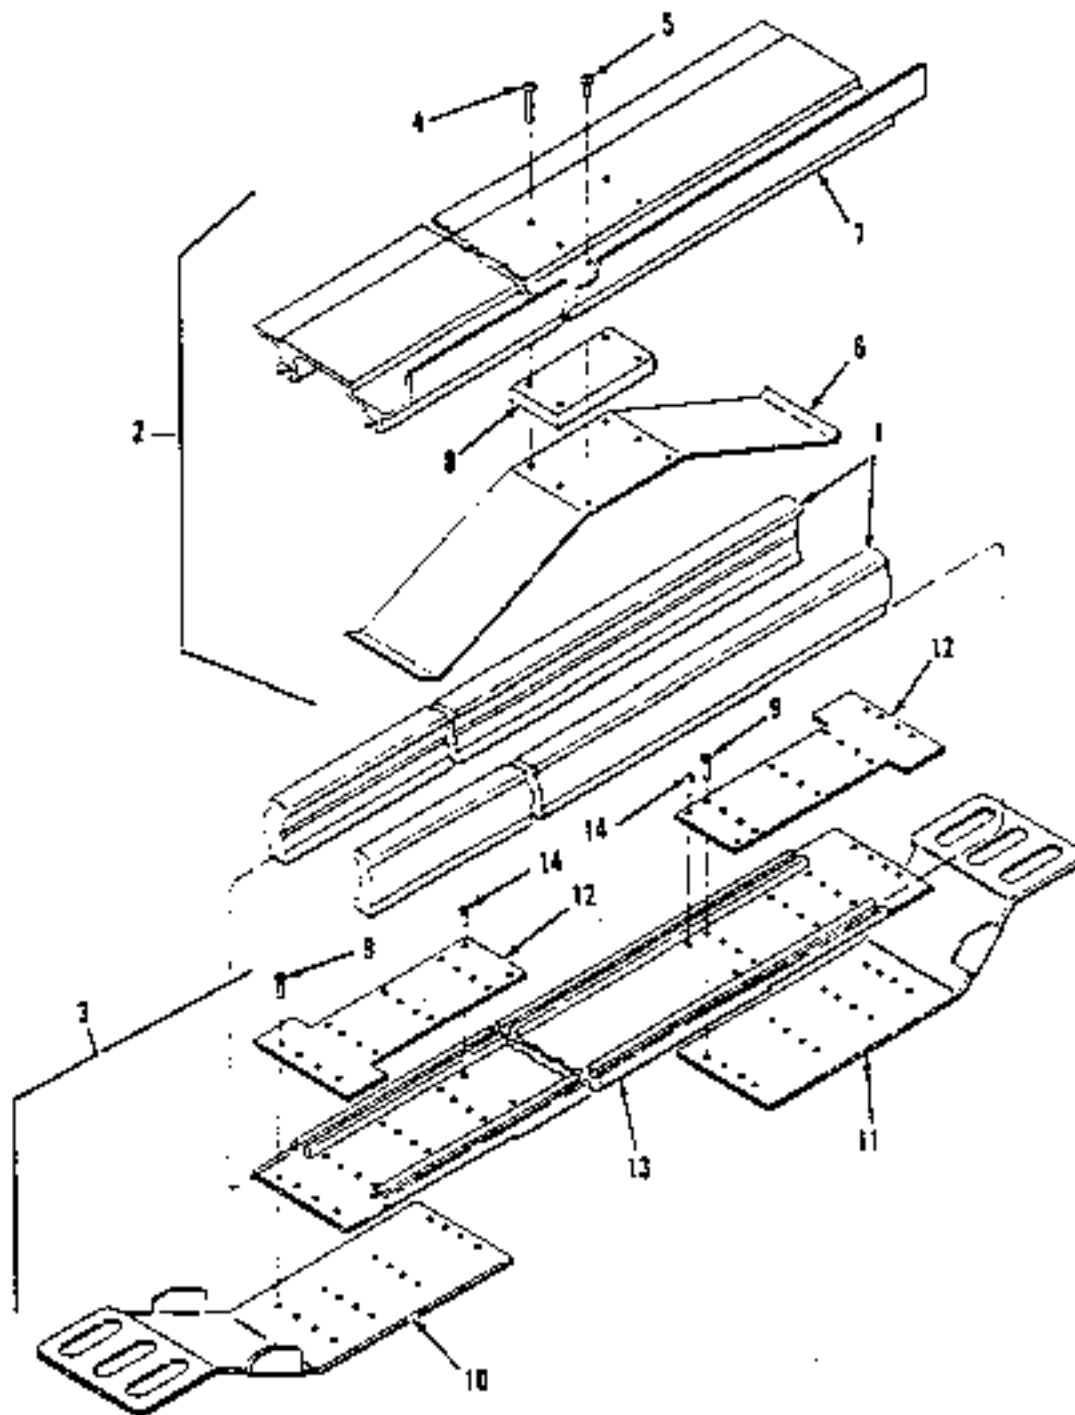

Figure 3-36. Skid Assembly Repair.
- (1) Inspect for secure mounting and dents.
- (2) Inspect for damage to skirts (1, Figure 3-36).
c . *Disassemble.* (Figure 3-36)
e . *Assemble.* (Figure 3-36)